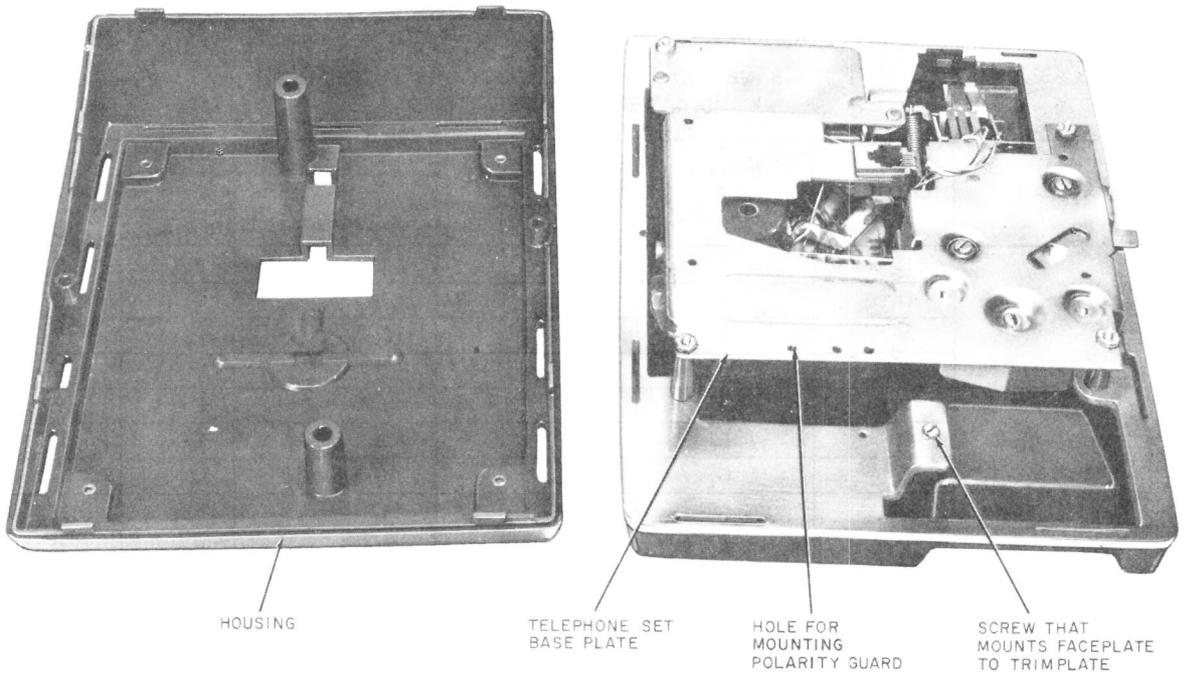

Fig. 7—2900A Telephone Set, Housing Removed
3.07 To install guard assembly in set, insert mounting screw into the telephone set base plate and the bracket on the guard assembly (Fig. 7).
- Remove screw that mounts faceplate to trimplate (Fig. 7).